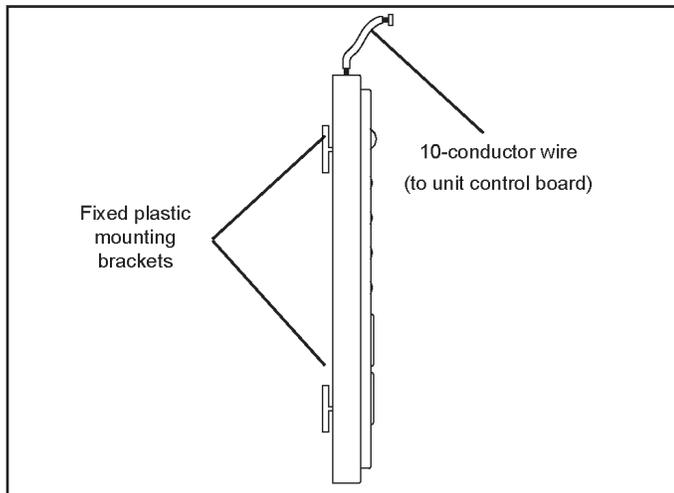

Figure 21. Receiver
2. Insert the two fixed plastic mounting brackets on the back of the receiver into the two slots inside of the electrical control box and slide to secure it. See Figure 21.